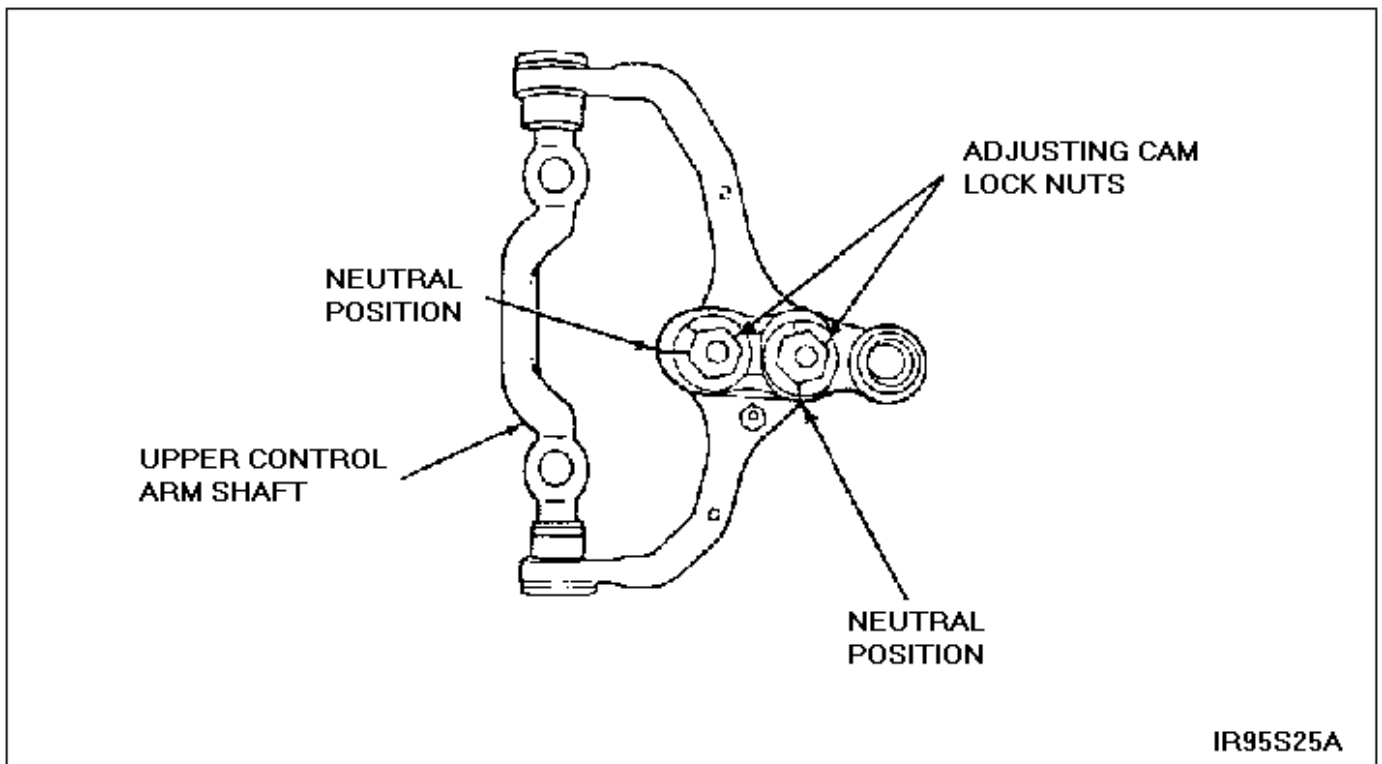

Figure 1
1. Loosen adjustment cam lock nuts and adjust cams to their neutral positions. Refer to Figure 1.